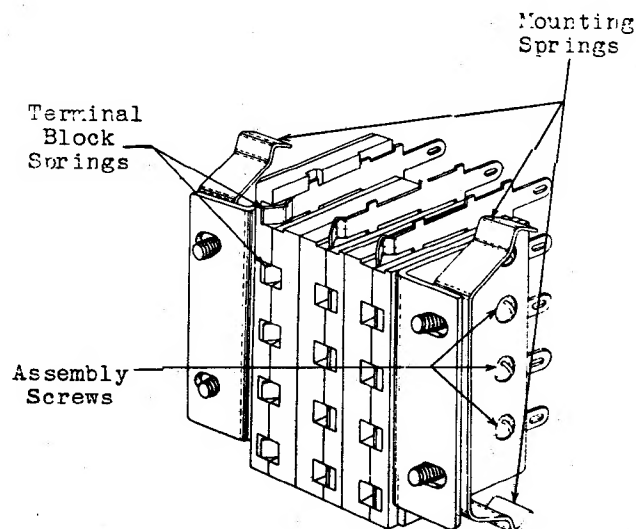

Figure 2
2.02 Relay Mounting Fig. 2 - The relay shall be held securely by its associated mounting plate and connecting block. Gauge by feel.